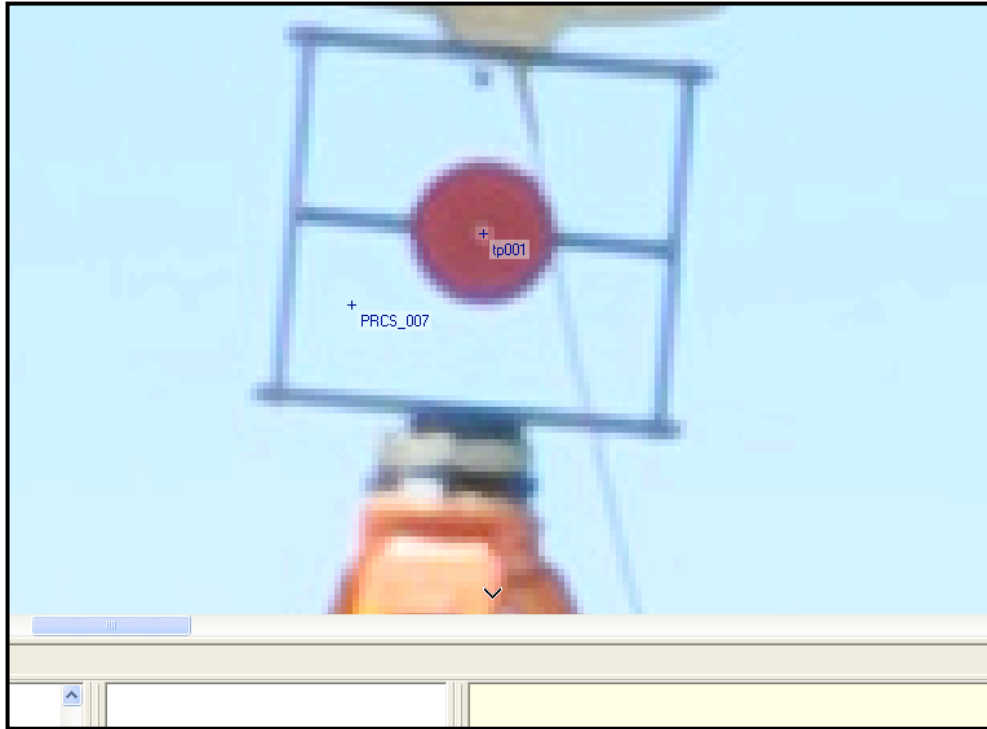

Figure 2. Each target in all images should have a project-defined point (PRCS) and a user-defined point (tp001).
- 4. Label Targets with Tie Points:** zoom in on the center of the target or control point, and click as close to perfect center as possible. A blue cross-hair marker will appear. Without moving the mouse, right-click and select “Add point to TPL”. A window will appear, and click “OK”. You do not need to name or define the type of target in the image (Fig. 2). Proceed with this process for every target in each scan image of one scan position.